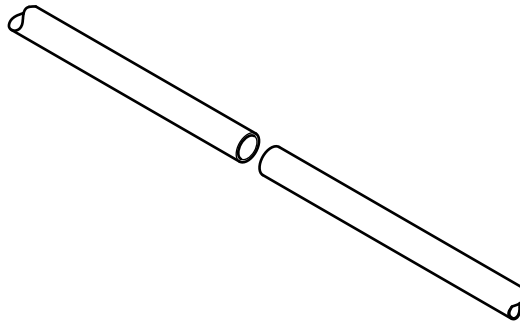

Fig. 10.1
- (a) Fig. 10.1 shows two steel tubes that need to be joined end to end to extend the length of the tube. End to end welding cannot be used.
Draw on Fig. 10.1 to show how the steel tubes can be joined so that they are in line and the joint will resist bending.